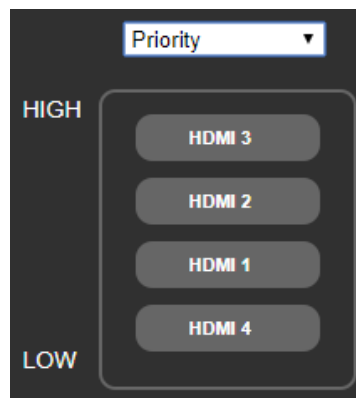

Figure 18: Priority settings
Using the control shown in Figure 18, drag and drop the HDMI 1 through HDMI 4 inputs into the desired order of priority. If an output is set to Auto-switching ON and the input signal assigned to that output is disconnected, the output redirects to an active input signal with a lower priority. Should the input signal reconnect, the output redirects to the highest priority signal available.
2. Priorities are set based on Figure 18.